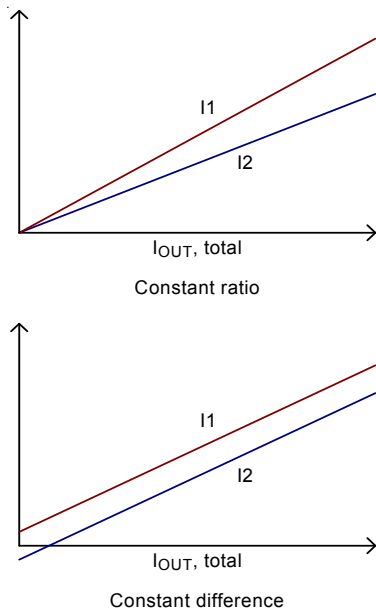

Figure 10. Category of Phase Current Imbalance
If phase current is not balanced due to asymmetric PCB layout of power stage, external resistors can be adjusted to correct current imbalance. Figure 10 shows two types of current imbalance, constant ratio type and constant difference type. If the initial current distribution is constant ratio type, according to Equation (3), reducing R_{CSN}[1] can reduce I_L[1] and improve current balance. If the initial current distribution is constant difference type, according to Equation (2), increasing R_{CSP}[1] can reduce I_L[1] and improve current balance.